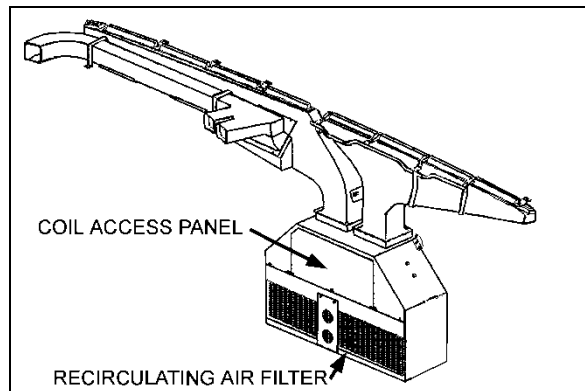

FIGURE 5: DRIVER'S UNIT AIR FILTERS 22171
**Once a year**, gain access to the driver's unit, remove the coil access panel (Figure 5) and clean the **driver's** unit evaporator and heater coils with low-pressure air jet, taking care not to damage fins. Clean the bottom of the defrost plenum.